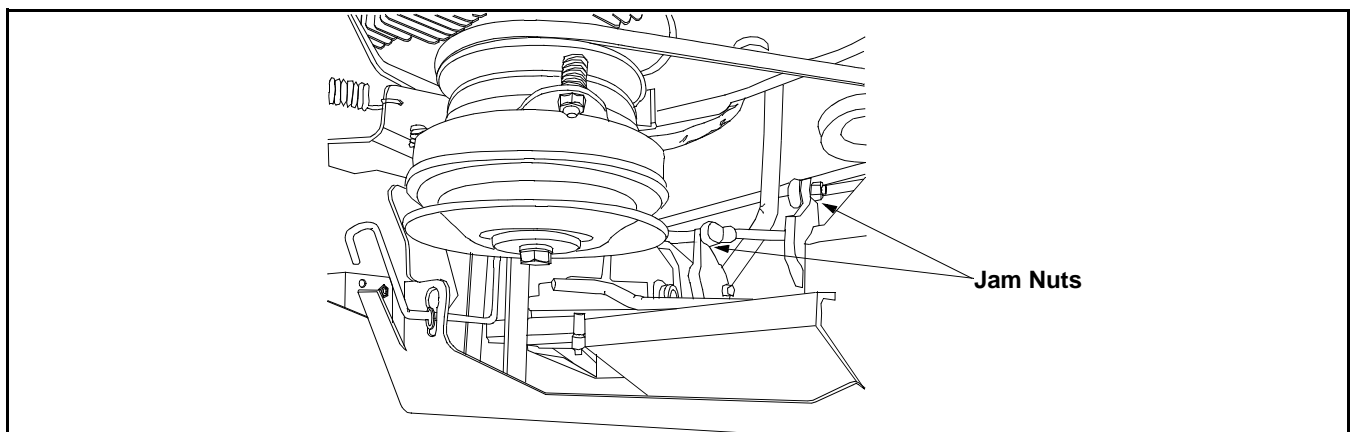

Figure 15
9. Remove bolts (A) that secure linkage to upper control handles and lower control arms. The shock absorbers should remain connected to linkage.
10. Insert quarter inch by seven inch pin or equivalent through the top and bottom alignment holes (B) of the control arms to secure arms at positive neutral. (Remove floor for access to lower holes.)
11. With the shock absorber still bolted to linkage, loosen the jam nuts (C) at both ends of the linkage so the alignaball adjustment can be made.
12. Adjust the alignaball (D) until retaining bolts slips through alignaball, and hole in arm, with little effort.
15. With quarter inch by seven inch pins still installed in the top and bottom linkage arms, loosen the jam nuts at both the front and rear ends of linkage that runs from bottom linkage arms to hydrostatic pumps. (See Figure 15)